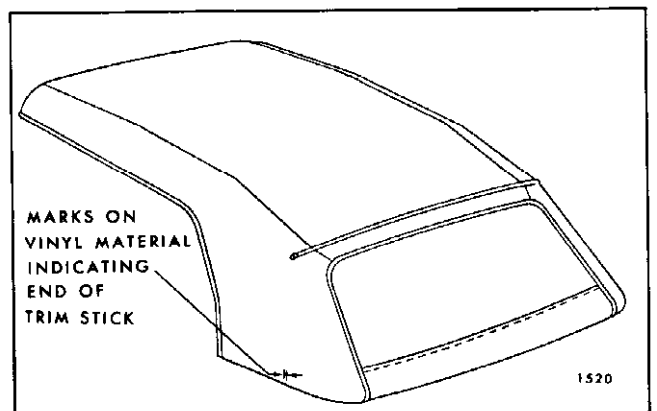

Fig. 13-8 - Marking Top Material
22. Using a pencil, mark both ends of rear and rear quarter trim sticks on vinyl surface of top material (Fig. 13-8). Reference marks for trim sticks should be transferred to new top material when step 28 of installation procedure is performed.